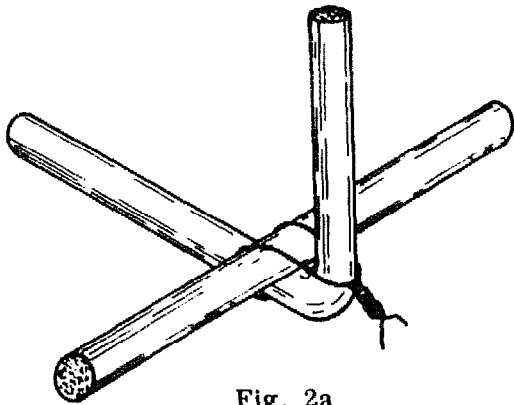

Fig. 2a
- **BINDING:** The members must be bound together in order to ensure that the bars remain in the correct positions while the concrete is being poured. Binding wire is bound around pieces at the connections (Figs. 2a & 2b). The wire should be stretched taut and then twisted tight with the pincers.